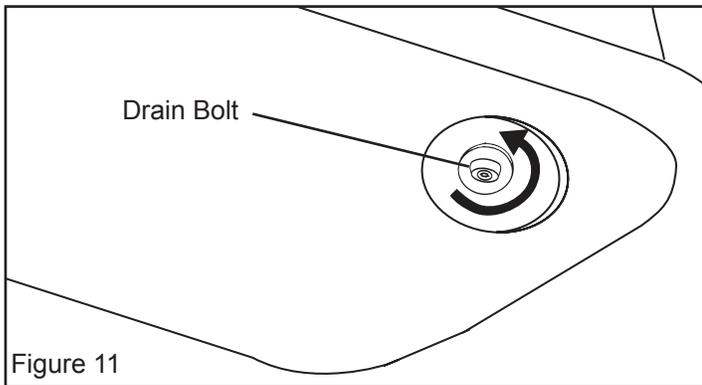

Figure 11
2. To remove the drain bolt, unscrew the drain bolt counterclockwise and remove from the drain hole in the tank. (See Figure 11)